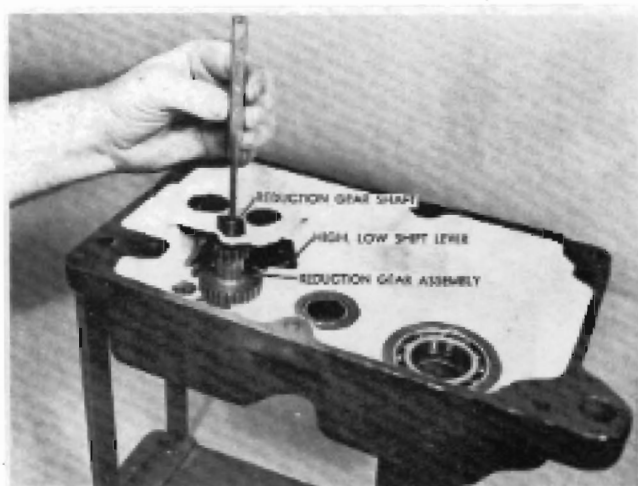

FIGURE 9
1. Install the high-low range shift lever (Figure 9) in the hole of the right case below the shift rail supports.
2. Position the reduction gear assembly in place with the large gear down and insert the reduction gear shaft, driving it in place from the inside of the case, as shown in Figure 9.